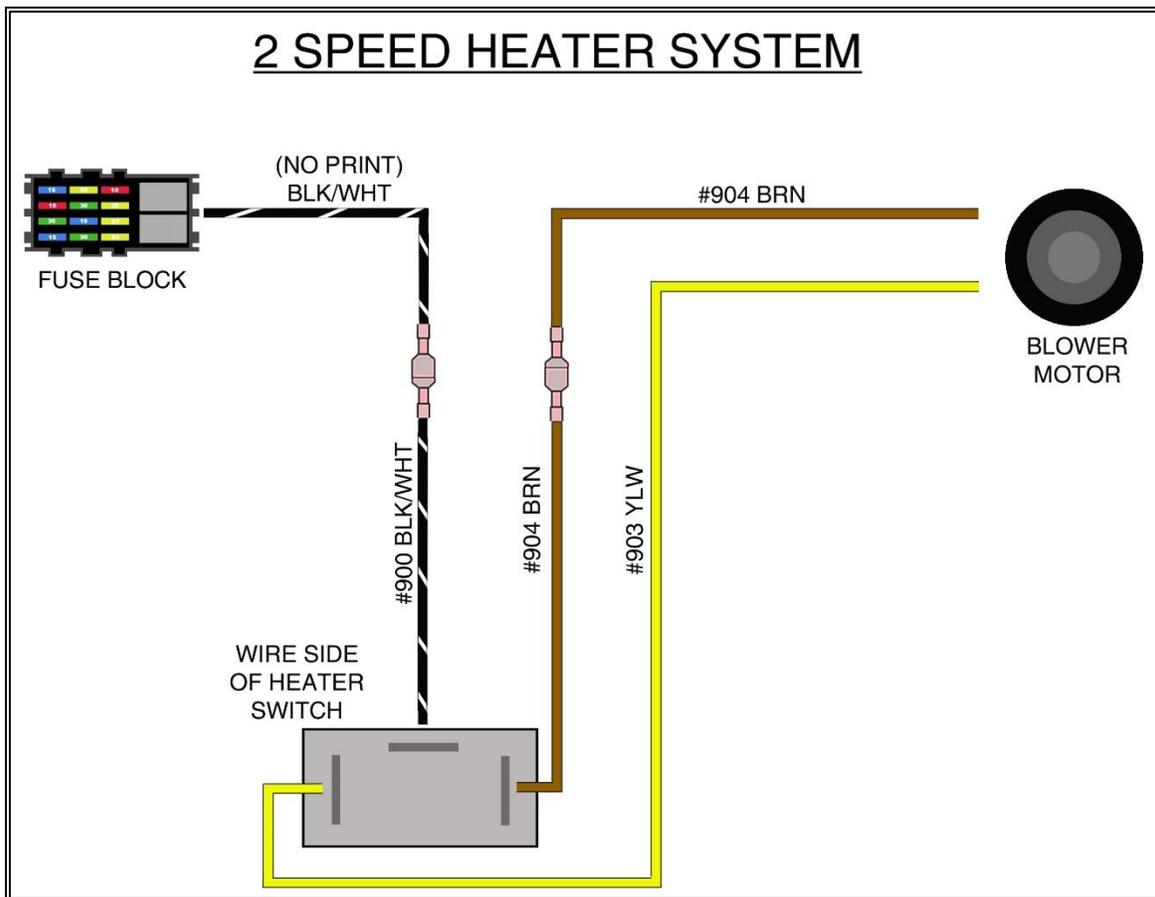

Figure 24 2 Speed blower Schematic
- Both wires can be seen in **Figures 24 & 25**.